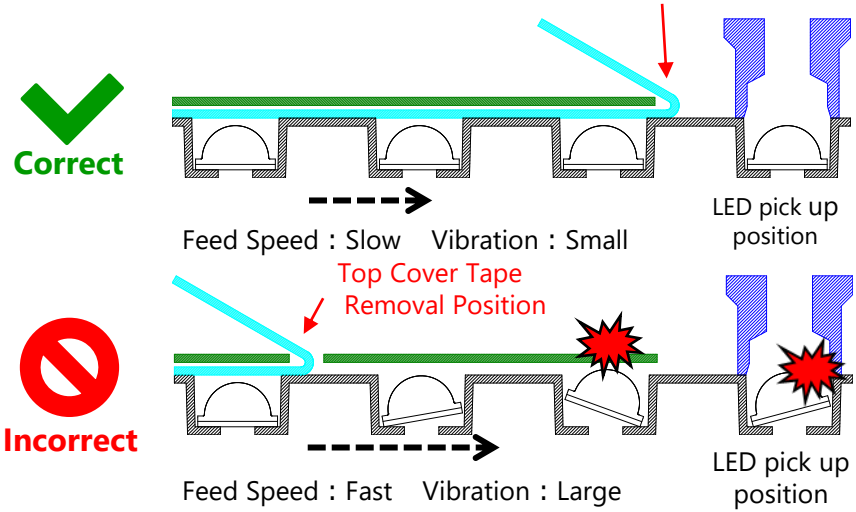

Figure 4. Examples of Correct/Incorrect Top Cover Tape Removal Positions
3. When removing the top cover tape it should be done adjacent to the target LED (See Figure 4). Otherwise, it may shake the embossed carrier tape and cause the LED to move within the tape pocket. This may cause